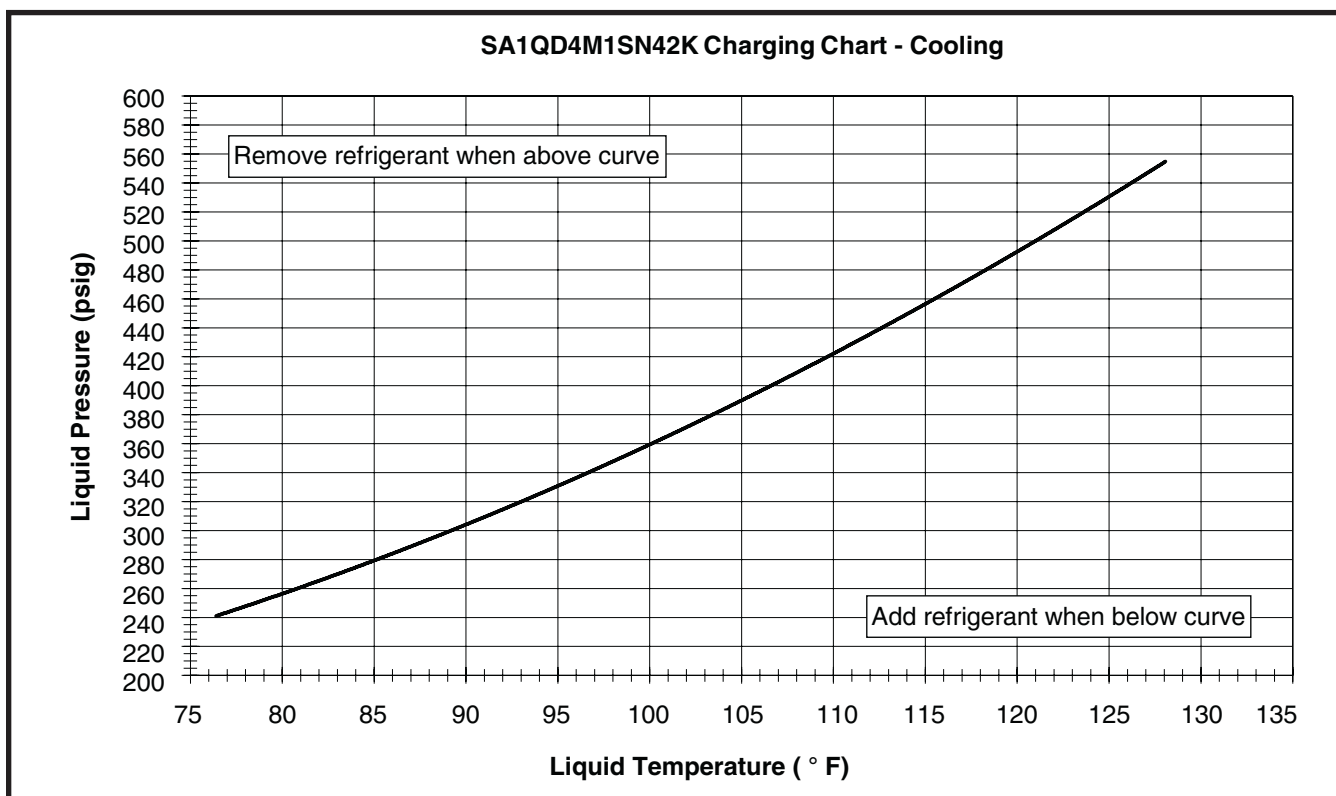

**Figure 6. Charging Chart for 2.5 Ton Models
- The refrigerant charging charts are applicable only to matched assemblies of this equipment and listed airflows for the indoor coil. If system is matched with an indoor unit that has a restrictor, refer to Table 4 \(page 8\), Table 5 \(page 8\), Table 6 \(page 9\) for correct system charging. If system is matched with an indoor unit that has a TXV, refer to Figure 4 \(page 9\), Figure 5 \(page 10\), Figure 6 \(page 10\), Figure 7 \(page 11\), Figure 8 \(page 11\), & Figure 9 \(page 12\).
3. Determine the required liquid refrigerant pressure from Figure 4 \(page 9\), Figure 5 \(page 10\), Figure 6 \(page 10\), Figure 7 \(page 11\), Figure 8 \(page 11\), & Figure 9 \(page 12\).
- Before using the charging charts, make sure the unit is in a stable operating mode. As shown in Figure 4, Figure 5, Figure 6, Figure 7, Figure 8, & Figure 9, the ideal system sub-cooling can vary over the range of operation. Reference the charts to determine the ideal amount of sub-cooling for a given liquid pressure. Units charged to other values will not perform at the rated unit efficiency (EER).